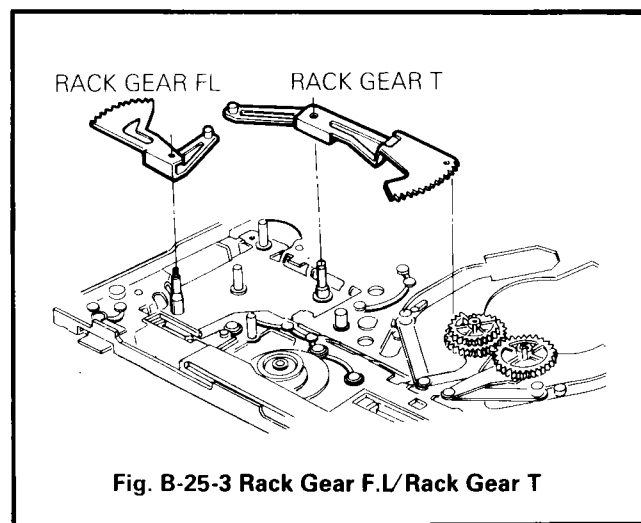

Fig. B-25-3 Rack Gear F.L/Rack Gear T
- 3) Remove the Rack Gear F.L. (Fig. B-25-3)
- 4) Remove the Rack Gear T. (Fig. B-25-3)